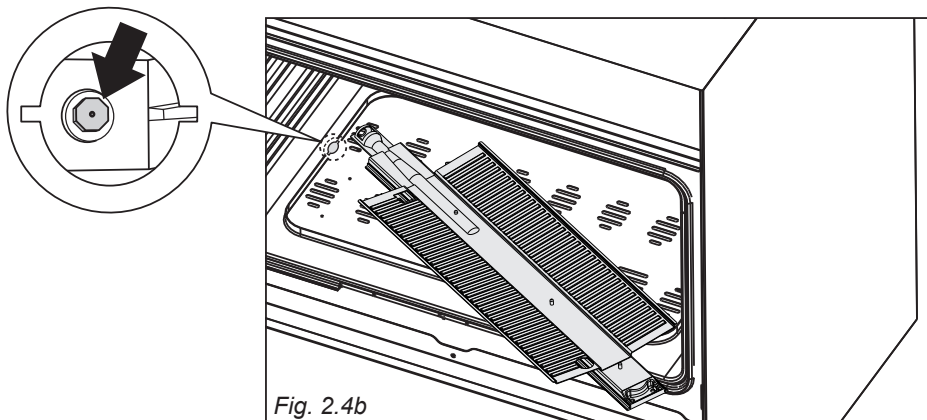

Fig. 2.4b
- Withdraw the burner as shown in figure 2.4b.
- Using a 7 mm box spanner, unscrew the injector (indicated by the arrow in fig. 2.4b) and replace it with a new one selected in accordance with the “Table for the choice of the injectors”.
To regulate the air supply it is necessary to remove the burners from their housings (figs. 2.4b - 2.5b).